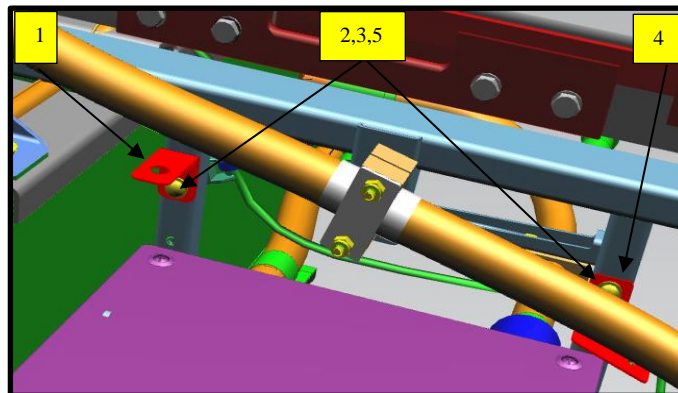

Figure 3: Street side secondary cover bracket location references.
11. Attach item #1 and #4 Brackets as shown below with items #2 Screws, #3 Washers and apply 1 or 2 drops of Loctite #5. See Figure 3.